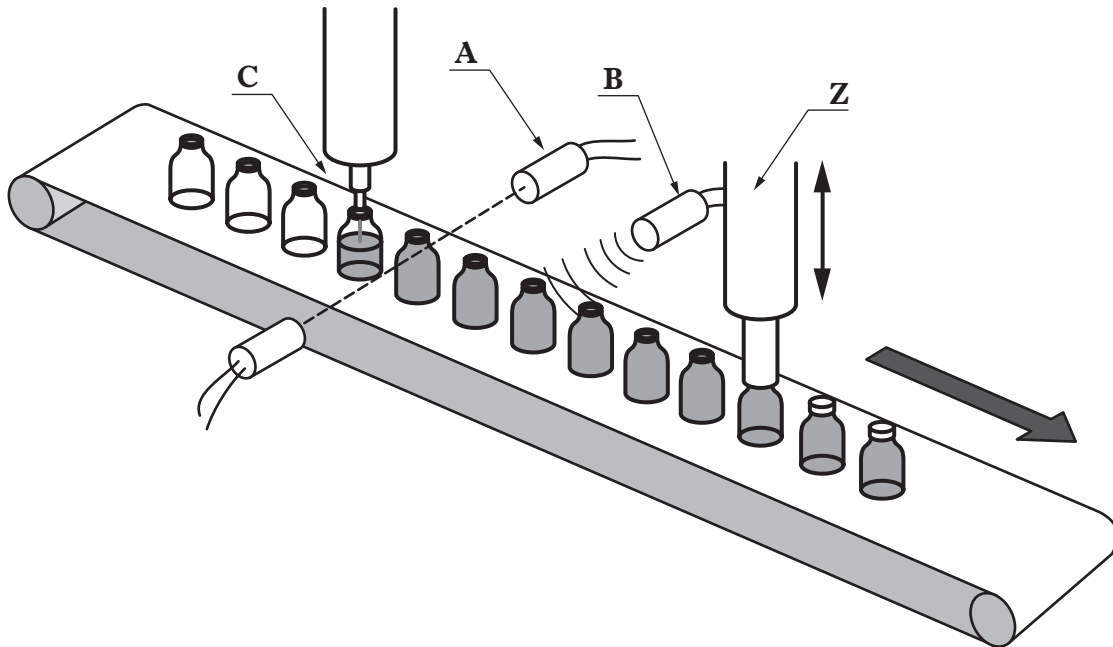

Figure Q1
1. Figure Q1 shows a production line for filling and capping bottles. A lid-fitting device (Z) operates when an ultrasound sensor (A) or a load cell (B) detects that the bottle is full, and a filling-nozzle sensor (C) detects that filling has stopped.